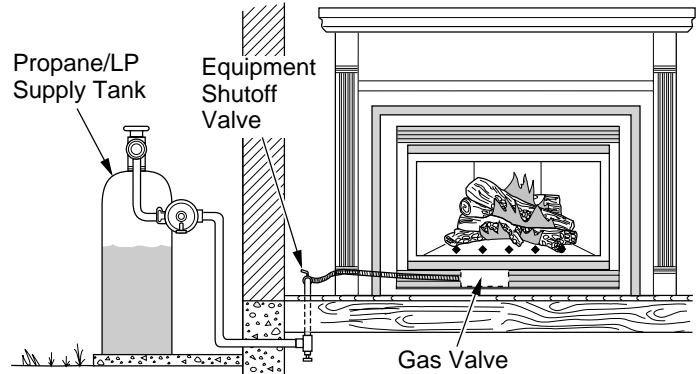
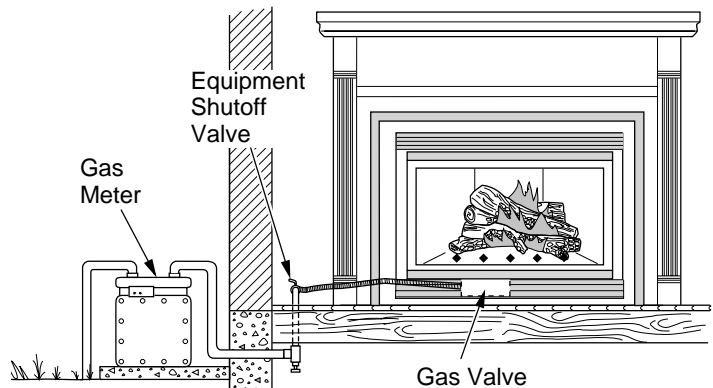

Figure 34 - Checking Gas Joints for Propane/LP Gas Fireplace
Figure 35 - Checking Gas Joints for Natural Gas Fireplace
3. Check all joints from propane/LP supply tank or gas meter to equipment shutoff valve (see Figure 34 for propane/LP or Figure 35 for natural gas). Apply noncorrosive leak detection fluid to all joints. Bubbles forming show a leak. Correct all leaks at once.
4. Check all joints from equipment shutoff valve to gas valve (see Figure 34 for propane/LP or Figure 35 for natural gas). Apply noncorrosive leak detection fluid to all joints. Bubbles forming show a leak. Correct all leaks at once.